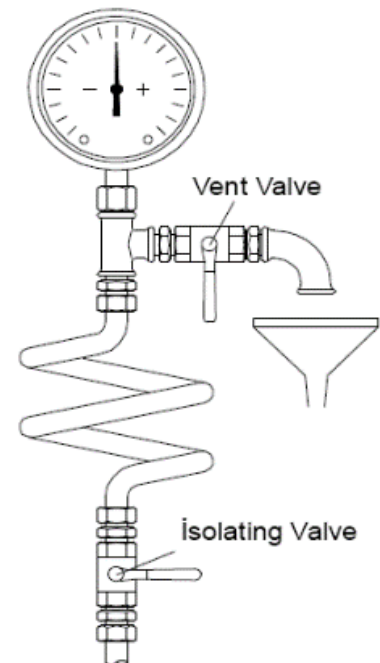

Fig.7
- Pressure and vacuum gauges must be properly anchored and connected at the measuring points located on the pipes approximately 2D close to the flanges with approximately 8 mm diameter tubing with pig tail configuration to lessen pressure fluctuation. For safety purposes isolating and vent valves should be fitted before the gauges (**Fig. 7**).